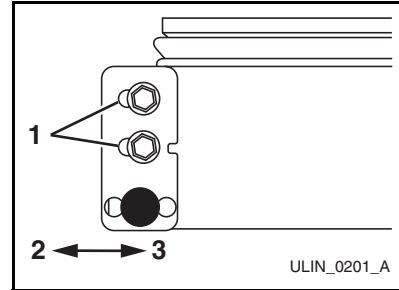

Figure 14
- Your plate has slotted mounting holes (**Figure 14, 1**). Loosen but do not remove the two hinge plate screws.
4. If door edge opposite the hinges needs to move up, move plate toward outside of door (**Figure 14, 2**). If door edge needs to move down, move plate toward inside of door (**Figure 14, 3**). Repeat until top edge of door is parallel with top of cabinet and tighten screws securely (**Figure 14, 1**).